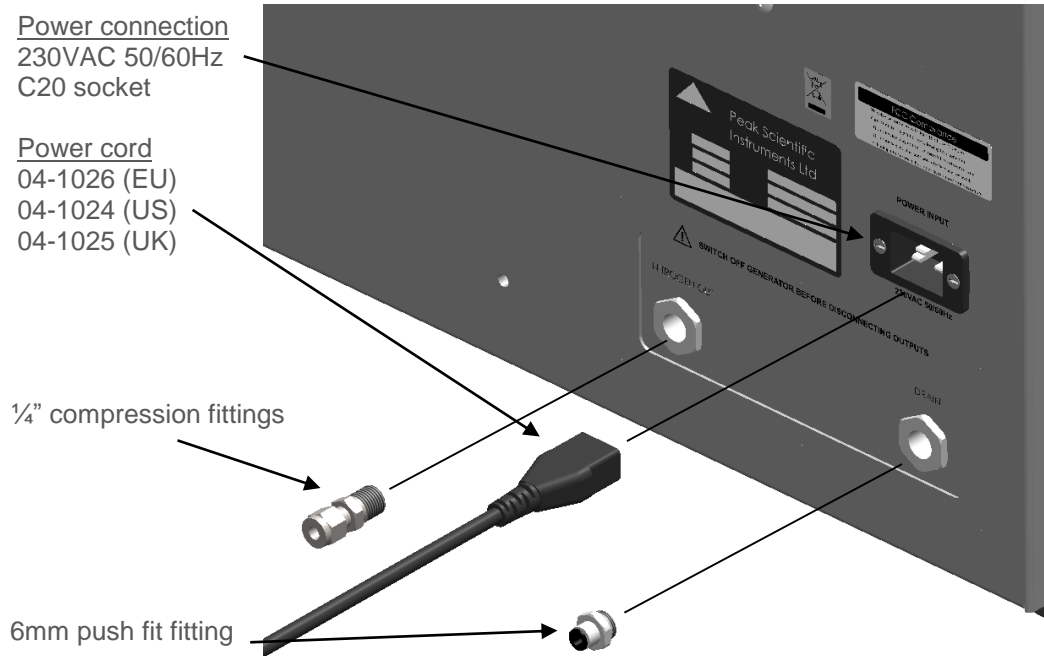

Figure 6: Rear connections
All of the Generator output ports are located on the output panel at the rear of the Generator. See Figure 6.
Fit the 6mm push fit fitting (item 2 from fittings kit) to the drain port located on the output panel (see Figure 6). Tighten using a 16mm or 5/8" spanner. Use the 6mm tubing (item 4 from fittings kit) to connect this to a suitable drain connection or container. It should be noted that the Generator can expel a considerable amount of water from this (dependant on ambient humidity).
Attach the either the 6mm elbow or ¼" compression fitting to the outlet of the Generator (see Figure 6). Using the 6mm or ¼" tubing supplied, connect the outlet of the Generator to the inlet on the application.